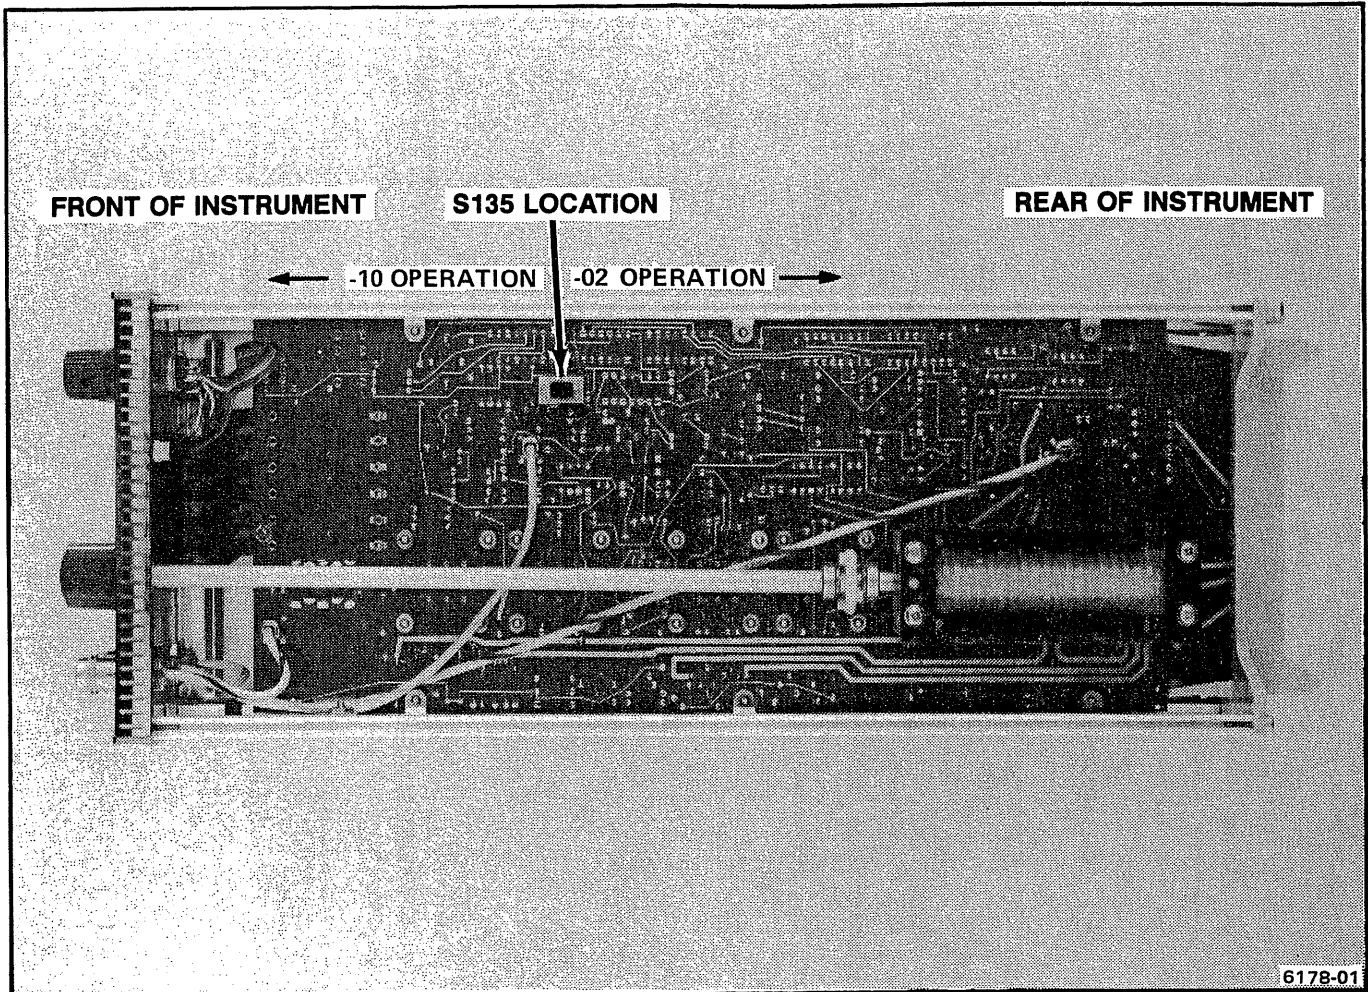

Figure 1-1. 067-0587-10 7612D calibration fixture signal standardizer with right cover removed (S135 location).
The switch (S135) is mounted on the back side of the Main Interface circuit board. When the switch is pushed to the forward position the instrument is functioning as an 067-0587-10 and when the switch is pushed toward the rear of the instrument it functions as an unmodified 067-0587-02. Switch locations are illustrated in figure 1-1.
3. Remove the right side cover (with the front-panel forward). See figure 1-1.